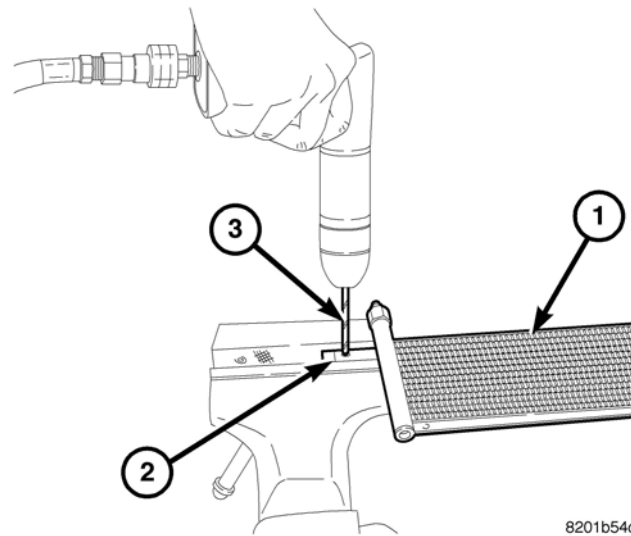

Fig. 7 DRILL HOLE IN LEFT COOLER BRACKET
9. Clamp the transmission cooler back into the vise by the left cooler tab/bracket. Then, using a center punch, place a mark $13/16$ inch (21 mm) from the end of the tab. Drill a $5/16$ inch (8 mm) hole at the marked position, (Fig. 7).